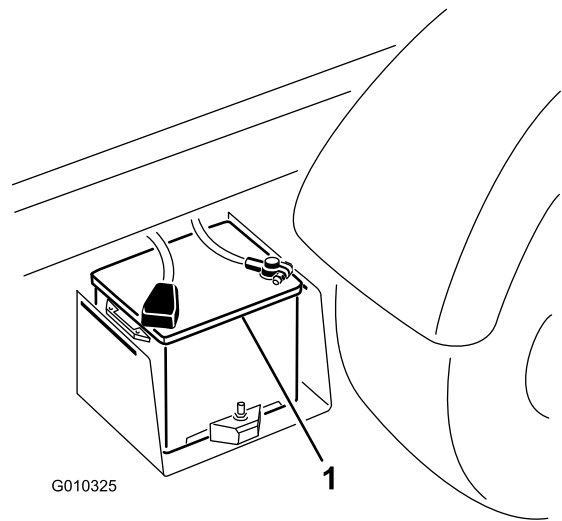

Figure 50
2. Connect a jumper cable between the positive posts of the 2 batteries (Figure 50). The positive post may be identified by a + sign on top of the battery cover.